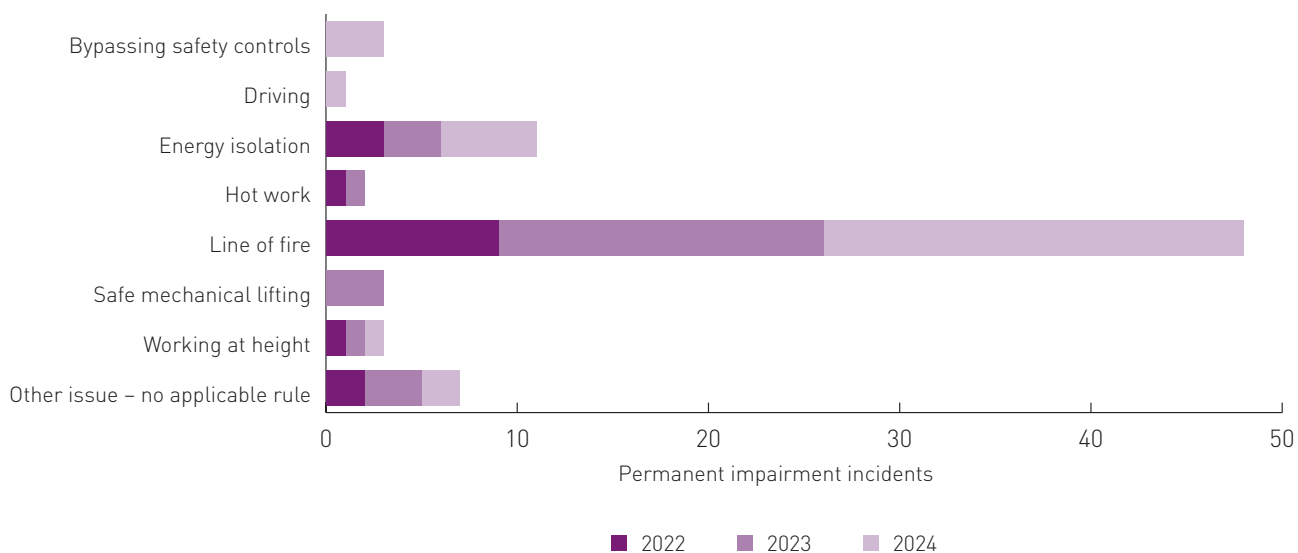

Figure 5 – IOGP Life-Saving Rules allocated to permanent impairment incidents (2022-2024)
IOGP has been collecting permanent impairment injury data since 2022. Data analysis is presented at <https://data.iogp.org/>. Figure 5 shows the primary LSR assigned to permanent impairment (PI) incidents reported to IOGP between 2022 and 2024.